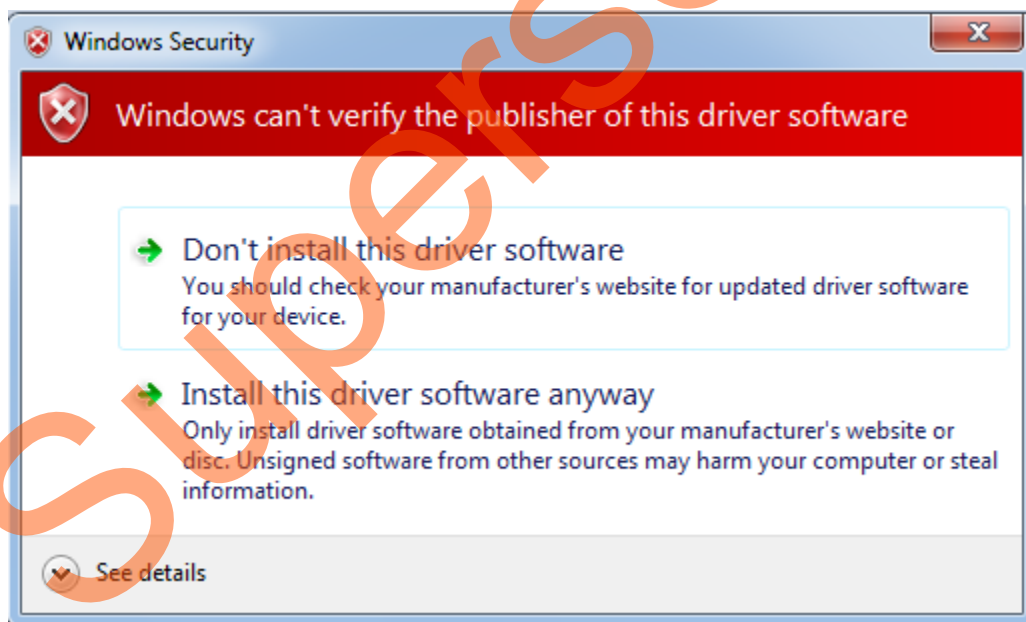

Figure 59 • Windows Security
4. Click **Install this driver software anyway** if the window appears as shown in Figure 59.